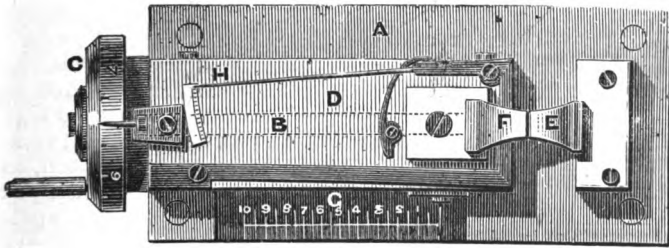

Fig. 2. Horstmann's.
**Horstmann's.**—Fig. 2, which is the invention of Mr. G.